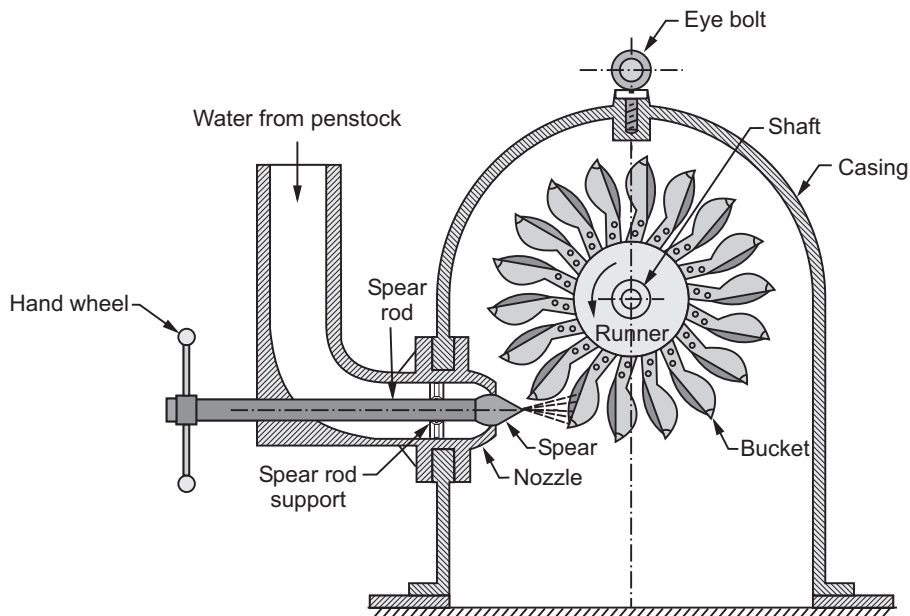

Fig. 3.6 : Pelton wheel
- An arrangement of a typical Pelton wheel is shown in Fig. 3.6.